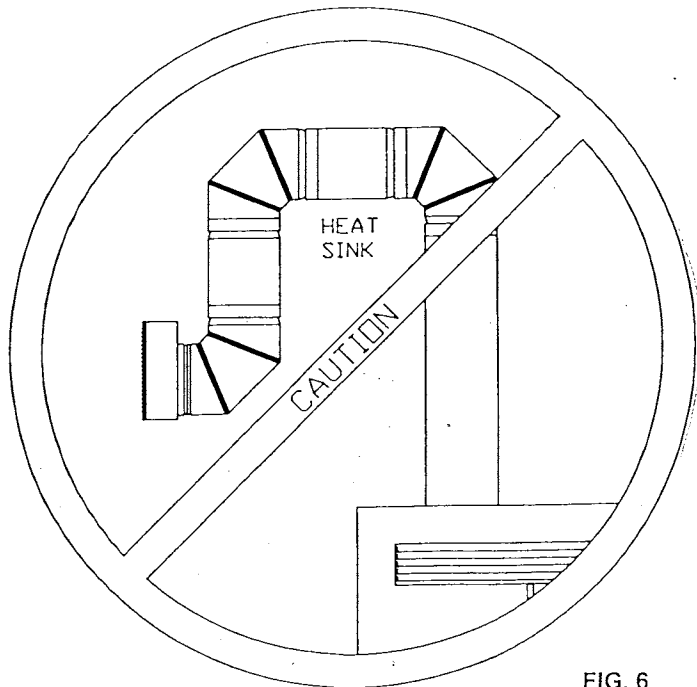

FIG. 6
- A) The heat register outlet covers must not terminate below the hot air ductwork outlets to prevent a heat sink. See Fig. 6.
CAUTION: Do not terminate the heat register outlet covers below the hot air ductwork outlets to prevent a heat sink - Fig. 6.